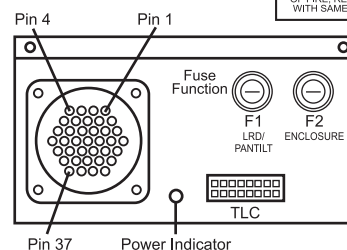

Figure 5. LRD41A11 Series Receiver Cable Connectors
5. Refer to Figure 5 and connect the Legacy 37-pin, pan/tilt connector to the receiver box.
1. Plug the 16-pin connector from the TLC module into the TLC connector on the receiver (refer to Figure 5). You can plug in the module when power for the receiver is turned on.